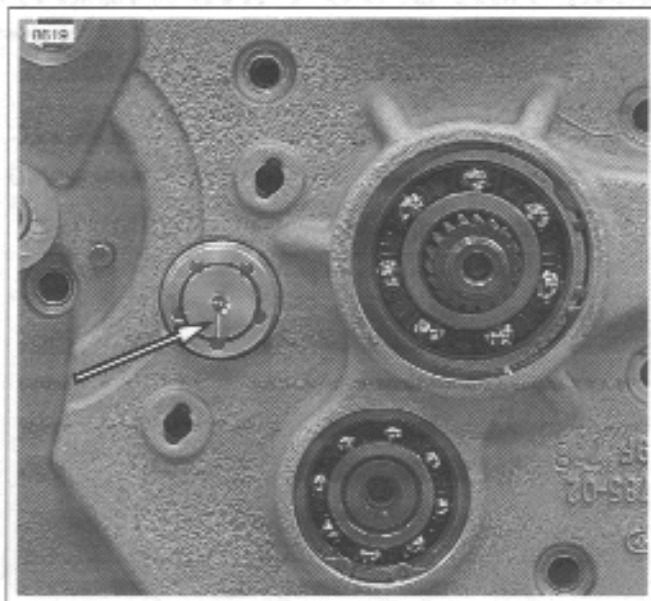

Figure 6-82. Scribed Line on Shifter Drum at 6 O'clock (Transmission in 4th Gear)
3. See Figure 6-82. Place Transmission in the 4th gear position. The scribed line on the shifting drum should be at 6 o'clock.